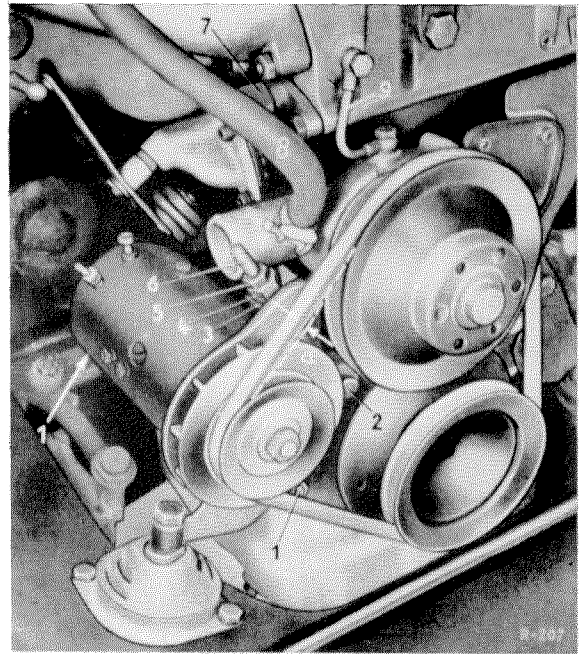

Figure 20-6/6
1. Loosen the nuts of the generator mounting (1) and the tensioning device (2-6) and turn the tensioning nut (4) in clockwise direction until the V-belt can be removed (see Figure 20-6/6).
2. Place the V-belt on the pulley and tension the V-belt by turning the tension nut (4) in counterclockwise direction. The measure a by which the V-belt deflects when applying moderate thumb pressure on the generator side must at least be 5 mm and should not exceed 10 mm (see Figure 20-6/6). Only now, tighten the counter nut (5) and the nuts front and rear for the mounting (1) and the tension screw (2).